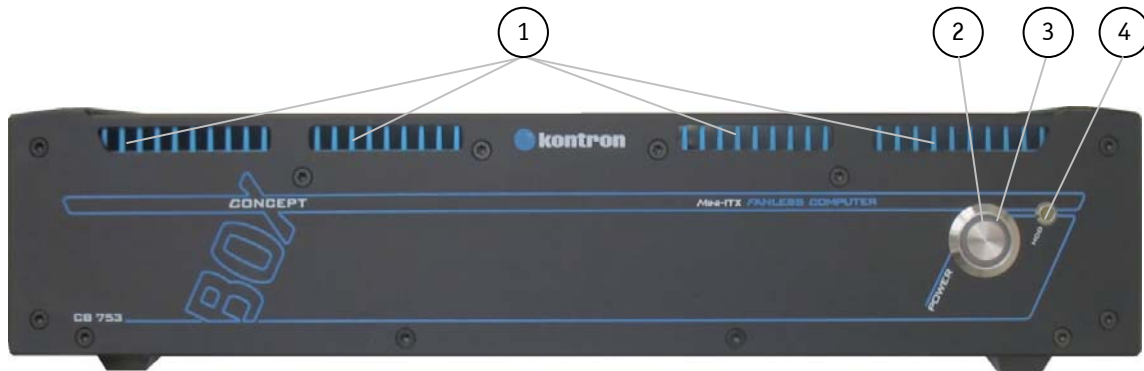
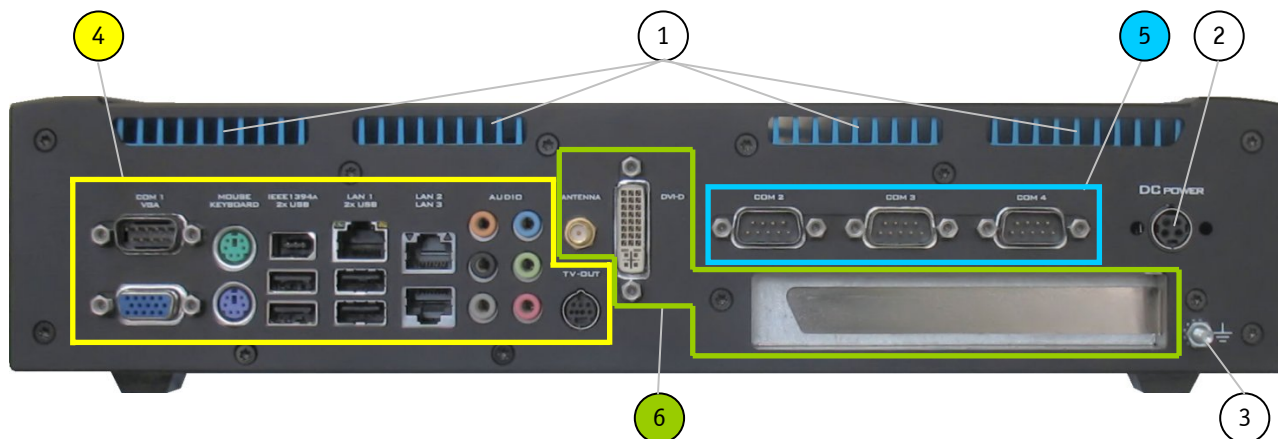

Fig. 9: Front side of the CB 753 platform
Fig. 10: CB 753 -rear side with WLAN antenna connector
When power on the CB 753, make sure that the air openings on the front side (Fig. 9, pos. 1) and the rear side (Fig. 10, pos. 1) and the cooling fins of the chassis are not obstructed (covered) by any objects. To provide sufficient heat dissipation for the cooling of the device, do not cover the cooling fins of the CB 753. Do not place any objects on the device.
Power Button	Press this button (Fig. 9, pos. 2) to power the system on or off.
Power LED (blue)	The power ring LED (Fig. 9, pos. 3) is integrated into the power button and lights blue up when the system is powered on by pressing the power button.  Prerequisite: The CB 753 has to be connected to an appropriate main power source (AC via AC/DC adapter or DC).
HDD LED (orange)	This LED (Fig. 9, pos. 4) lights up during HDD or CF activity.
The 4-pin power connector (Fig. 10, pos. 2 and Fig. 11, pos. 1) provides the power connection of the CB 753 platform to the appropriate main power source.